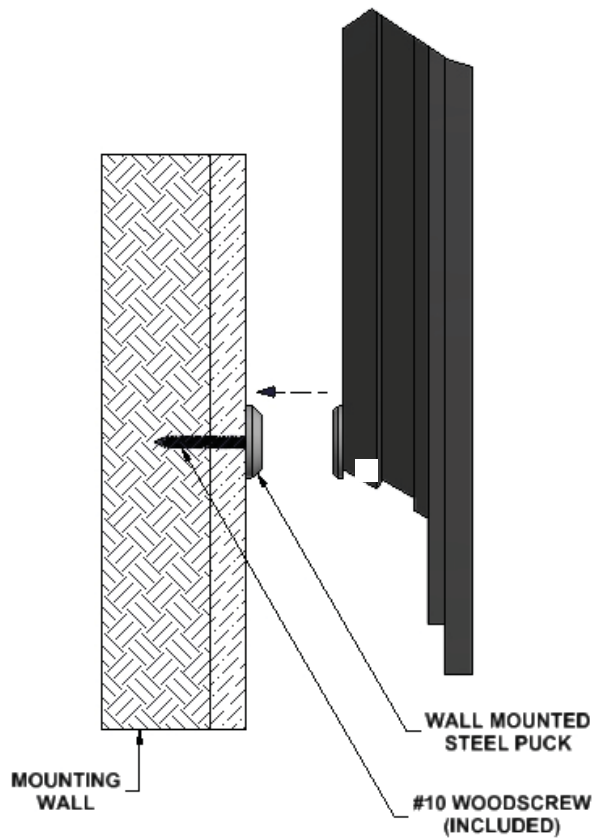

Figure 8: Magnetic Assembly Mounting
**NOTE:** Once the screen is positioned horizontally, the magnets will secure themselves to the pucks (Figures 8 & 9)